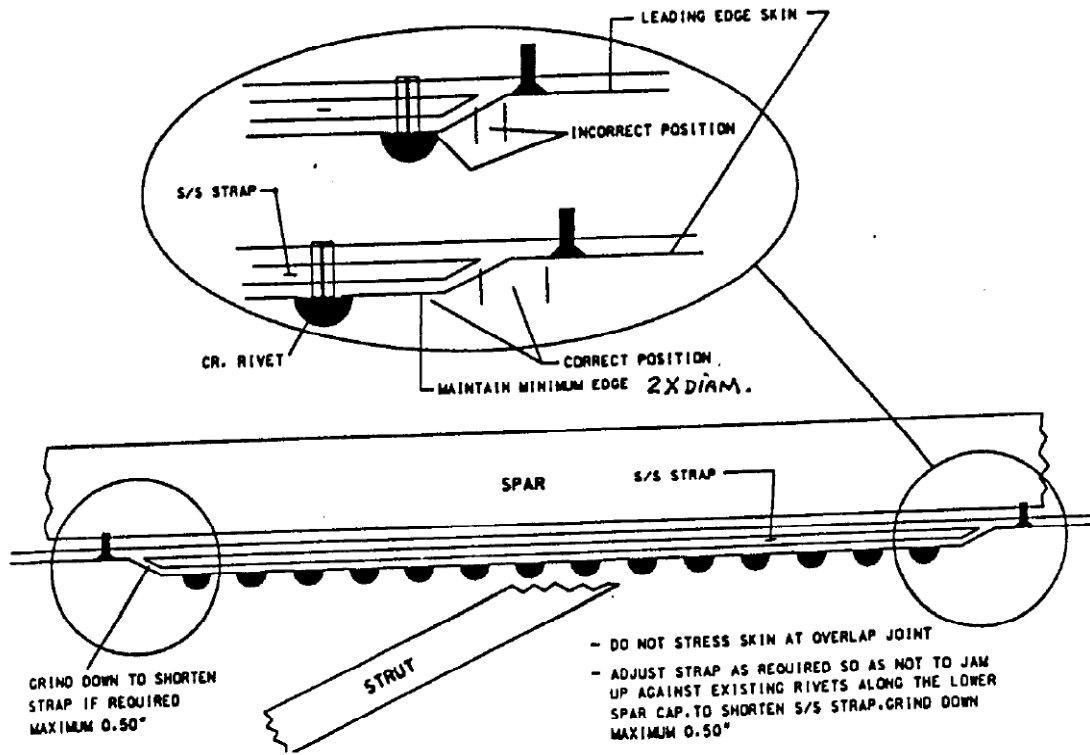

Figure 4: Positioning of Stainless Steel Strap Between Rivets
- 5) Slide the stainless steel strap under the leading edge wing skins and up against the underwing skin along the spar channel and then center the stainless steel strap on the mark made at step 1. Note that both extremities of the 16” stainless steel strap have been tapered for your convenience. If the strap is set up to tightly against an existing rivet on the underside of the spar cap, the strap is too long and must be shortened. Shorten the strap by grinding it down (a maximum of 0.50 “) in order to relieve stress load on the lower leading edge skin. On occasion, due to the proximity of other rivets, the extremities of the s/s strap may cause undesirable stress on the underside wing leading edge skins. If this occurs, remove rivet(s) in affected area and reinstall using locally fabricated aluminum shims in order to create a more gentle taper at the extremity of the stainless steel strap. (Refer to figure 4 for more details on positioning of the stainless steel strap.)